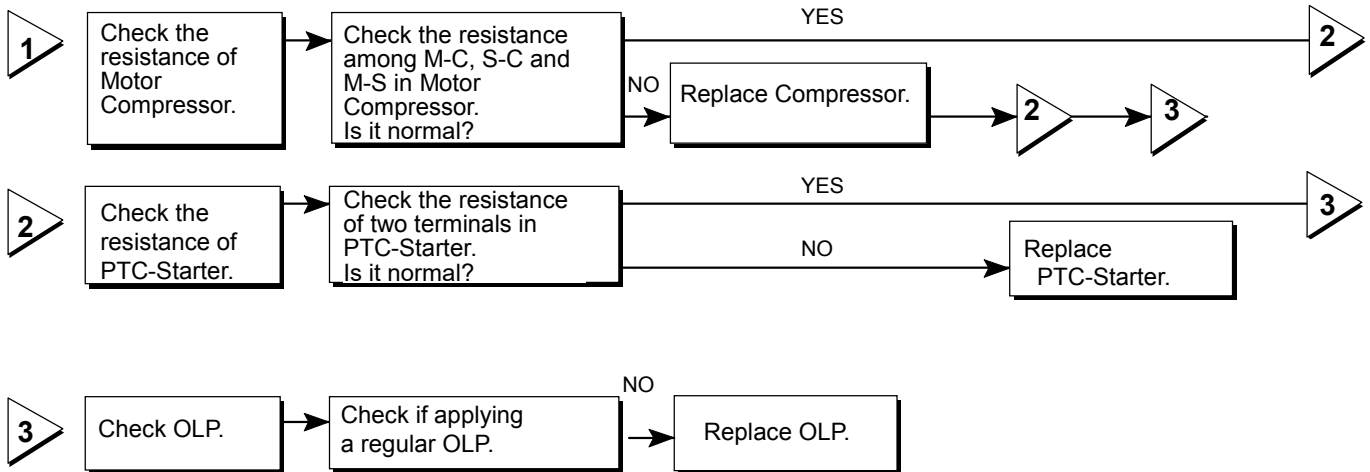

Figure 42
- 3. The compressor PTC starter and overload protector is pictured below. (figure 42)